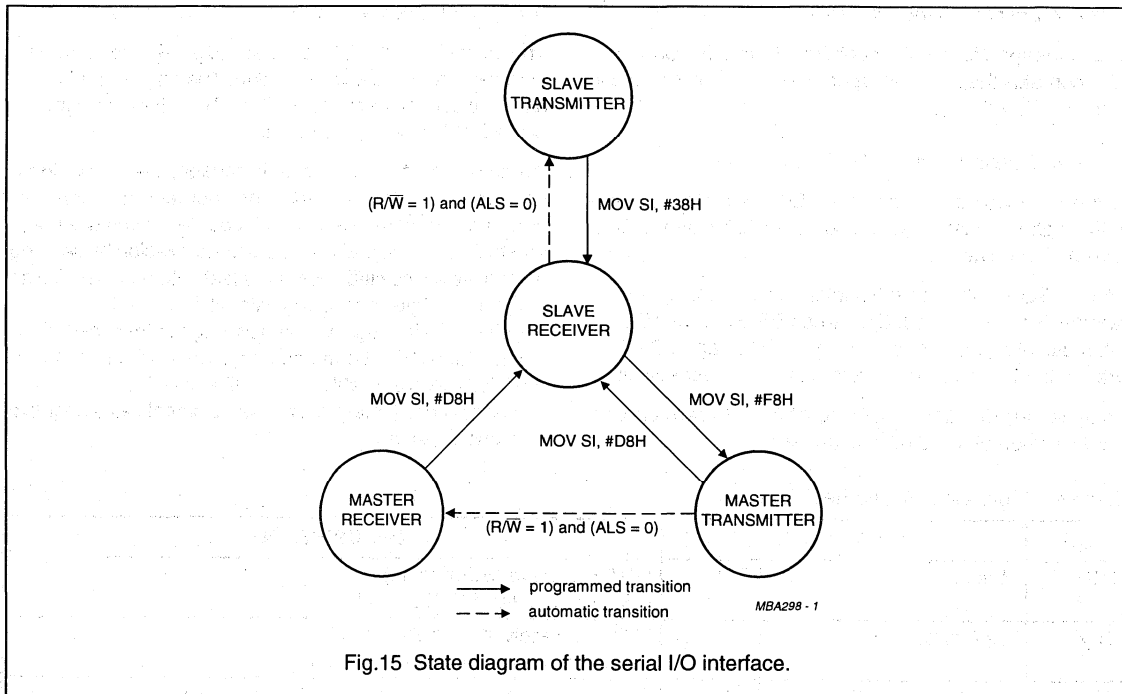

Fig.15 State diagram of the serial I/O interface.
MST and TRX together define the state of the serial I/O interface. When not engaged in a bus transfer MST and TRX should always be at zero, the slave/receiver state (see Fig.15). A return to this state is always performed by software. If the previous state was the master state, the transition (to slave/receiver by MOV1,#D8H) involves a stop condition which, as a consequence, clears both MST and TRX.
The Bus Busy bit (BB) is controlled by the serial I/O interface or by software in the bus master to generate the start and stop conditions. When a master clears BB (by MOV S1, #D8H), the serial I/O interface automatically clears MST and TRX, thereby returning to the slave/receiver state (see Fig.15). If BB = 1, write access to S1 is inhibited, except for the master or an addressed slave. Should BB be inadvertently set by excessive noise on the bus, the deadlock can be resolved by two consecutive MOV S1, #18H, the first of which just clears BB.
When a slave/transmitter detects an end of transmission (signalled by the lack of an acknowledgment from the master receiver), it has to access S1 in order to cancel PIN and to become slave/receiver. However, BB should remain set. This is reflected by MOV S1, #38H as illustrated in Fig.15. With PIN = 1, 'clock synchronization' terminates, enabling the master to generate the stop condition.